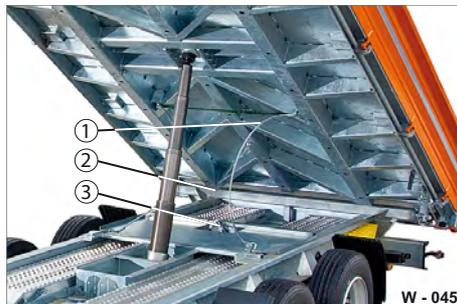

Fig. 45 Loading bridge, tilted to the rear
- ▶ Check that the lift of the loading bridge can be switched off via the lift limitation cable (Fig. 45/2) and the cut-off lever (Fig. 45/3).